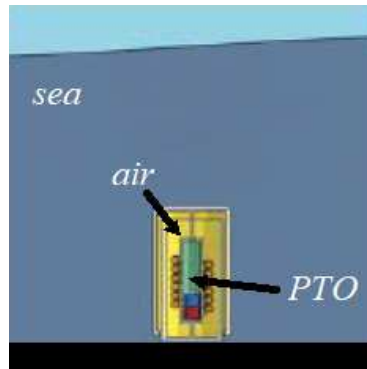

Figure 7.4: The Wave Energy Converter of Exercise 1.
1. Consider the Wave Energy Converter of Figure 3.2, when submerged in sea water at constant temperature T_{sea} . Assume that the air inside the device has a homogeneous temperature $T_{air}(t)$ and is heated by the device's Power Take-Off (PTO) mechanism, at temperature $T_{PTO}(s)$, that delivers an electrical power $P(t)$ to the electrical grid with an efficiency η . (See Figure 7.4.) Heat transfer from the PTO to the air inside the device takes place by convection with a constant coefficient h and for area A ; neglect the thermal capacity of the metallic WEC itself; consider that C_{air} and C_{PTO} are the thermal capacities of the air and the PTO, that have masses m_{air} and m_{PTO} . Let $T(t) = T_{air}(t) - T_{PTO}(t)$. Find transfer function $\frac{T(s)}{P(s)}$.